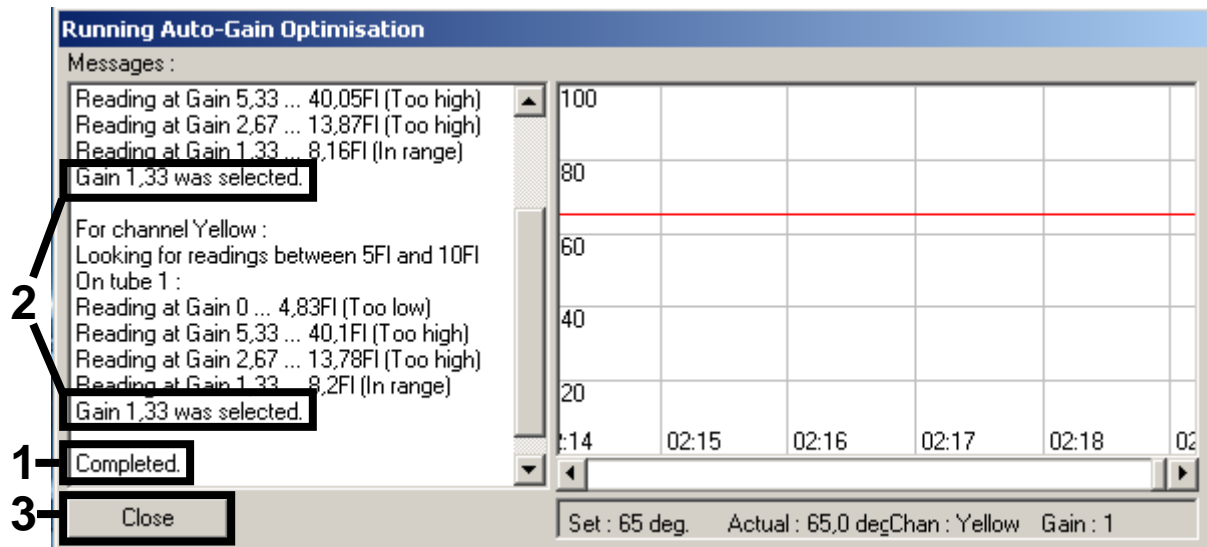

Figure 14. Gain optimization completed. Note gain values (in this case, 1.33 for both fluorescence channels).
12. A new “Running Auto-Gain Optimisation” window opens. Wait until “Completed” appears in this window (Figure 14). Write down the selected gain values for both channels, and then click “Close” (Figure 14).